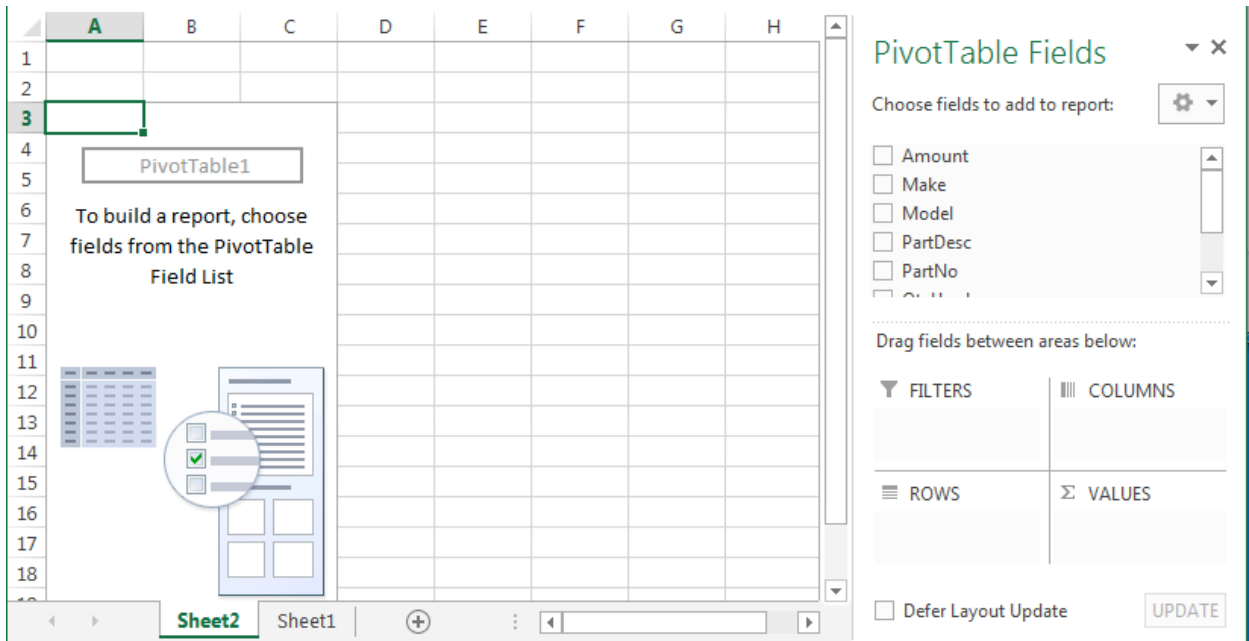

Figure 9: Datasheet with PivotTable Fields
2. **View Field List:** A new sheet opens with a Field List window containing the fields necessary for laying out your pivot table (Figure 9).